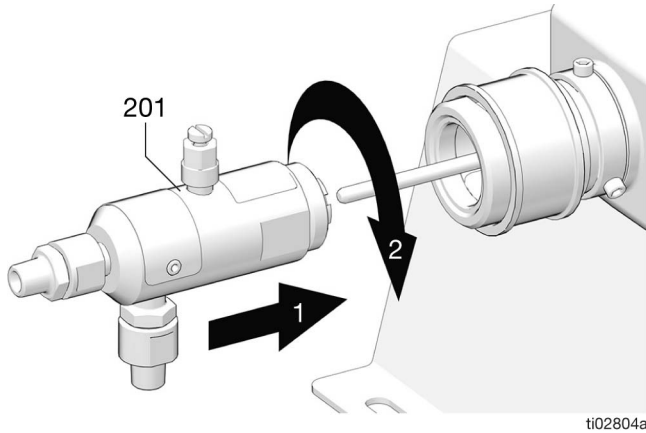

FIG. 21
1. Lubricate the plunger (213).
2. Push the fluid cylinder (201) onto the plunger (213) and rotate the fluid cylinder (201) to tighten (FIG. 21).